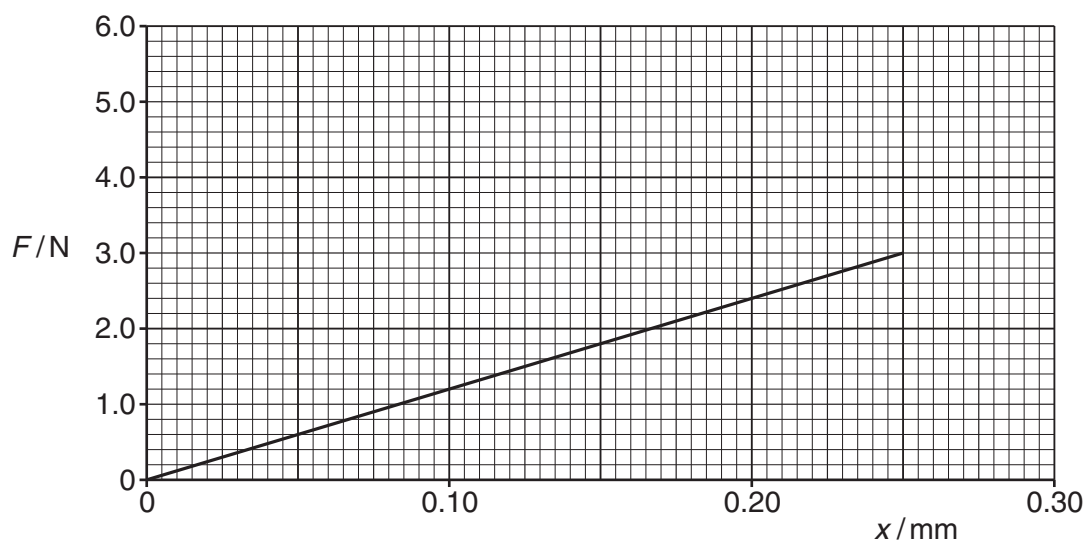

Fig. 5.1
(b) A load  $F$  is suspended from a fixed point by a steel wire. The variation with extension  $x$  of  $F$  for the wire is shown in Fig. 5.1.
(i) State two quantities, other than the gradient of the graph in Fig. 5.1, that are required in order to determine the Young modulus of steel.
- (iii) A load of 3.0 N is applied to the wire. Fig. 5.1 to calculate the energy stored in the wire.
On Fig. 5.1, sketch the variation with  $x$  of  $F$  for the copper wire for extensions up to 0.25 mm. The copper wire is not extended beyond its limit of proportionality. [2]